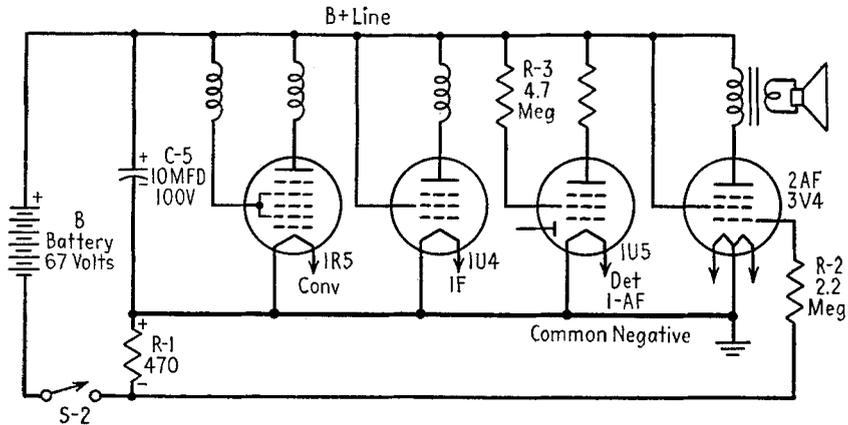

FIG. 19-3. Skeleton *B* circuit in battery portables.
**Plate or B circuit in battery portables.** The skeleton *B* circuit of a typical battery portable is shown in Fig. 19-3. The *B* battery shown is a 67-volt size. Some of the larger portables use a 90-volt battery, but the circuit is the same. The positive end of the battery is connected to the plate and screen circuits of all the tubes in the receiver. This is the *B* plus line. The tube cathodes are connected to ground through the *A* circuit. This is the common negative line. The negative end of the *B* battery is connected to common negative through switch *S*-2 and bias resistor *R*-1. The plate and screen currents of all tubes, therefore, flow through resistor *R*-1 and establish a voltage across it, with polarity as indicated in the diagram. The value of resistor *R*-1 (470 ohms) is chosen so that the voltage across it will be correct for the bias of the second AF tube. Note that grid-load resistor *R*-2 of the 3V4 tube is connected to the negative end of bias re-